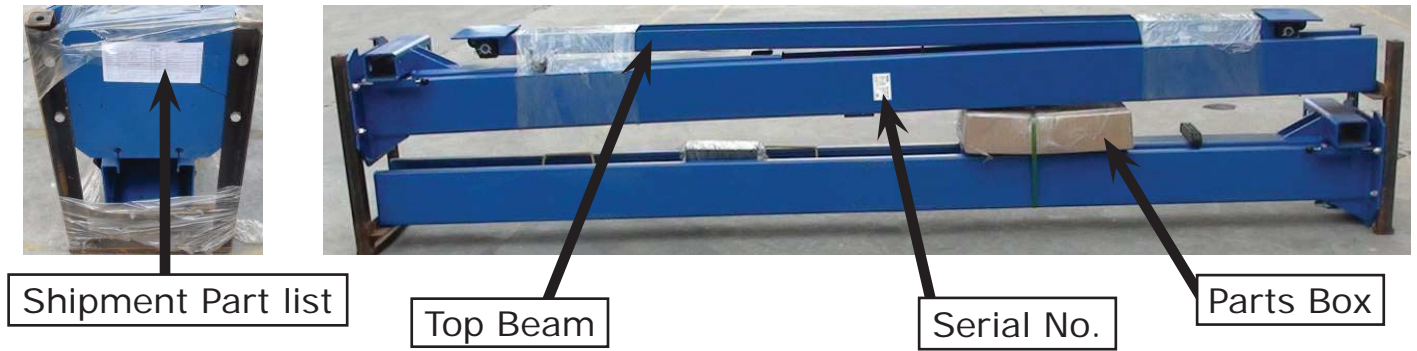

Fig. 7
2. Move aside the lift with fork lift or hoist, and open the outer packing carefully, take off the parts from upper and inside the column, take out the parts box, check the parts according to the shipment parts list **(See Fig. 7)**.